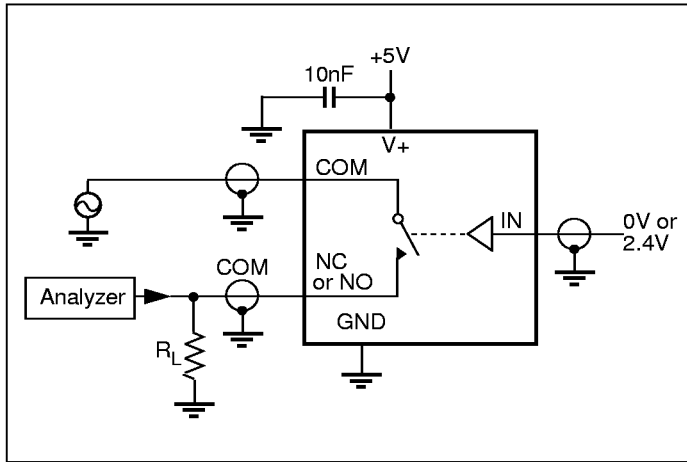

Figure 5. Off Isolation
- Off Isolation = $20\log_{10} [V_{COM} / (V_{NC\text{ or } V_{NO}})]$. See figure 5.